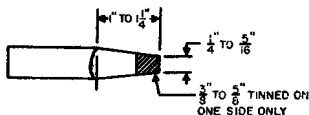

FIGURE 4.
- a. File approximately half an inch ( $3/8''$  to  $5/8''$ ) of the surface of one side of the tip until it is bright and clean. See Figure 4.